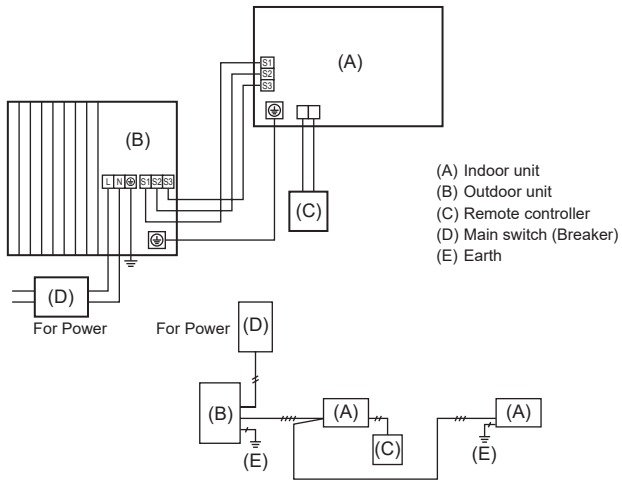
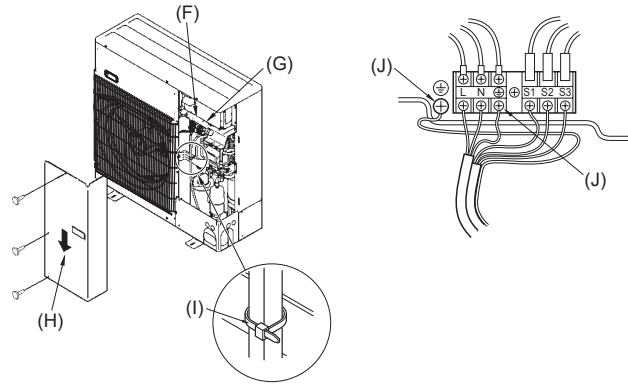

Fig. 6-1
Fig. 6-2
### 6.1. Outdoor unit (Fig. 6-1, Fig. 6-2)
- (1) Remove the service panel.
- (2) Wire the cables referring to the Fig. 6-1 and the Fig. 6-2.